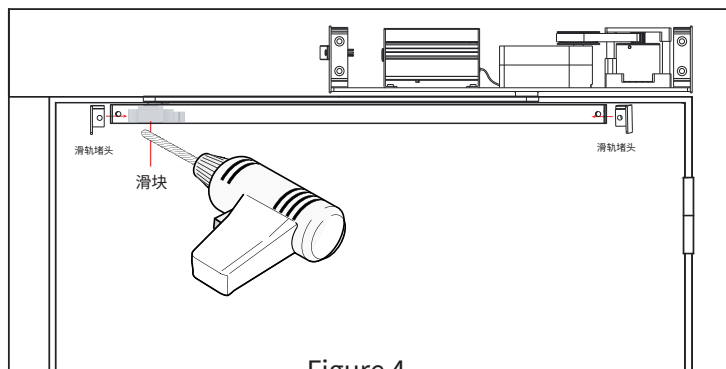
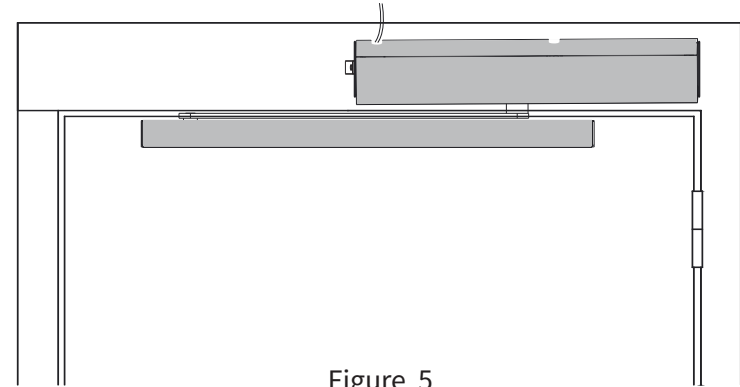

Figure 4
Figure 5
Step 4: close the door, install the slide rail plug, and place the slider at the end of slide rail, as shown in Figure 4, then mark the screw hole position, drill the fixing holes and fix the rail.
Step 5: connect the power, place the cover, as shown in Figure 5.
Step 4: when the door is closed, ensure that the arm is perpendicular to the door, as shown in Figure 4, and fix the other end of the arm. (Note: installation precautions are shown in Figure 5)